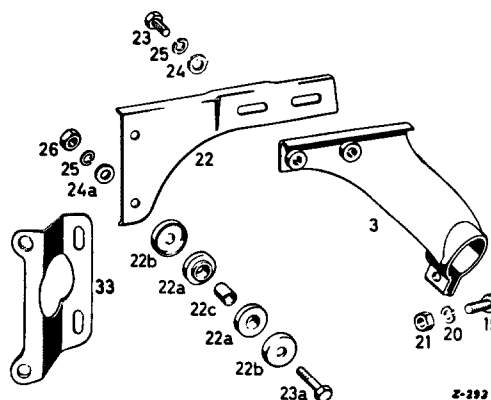

Fig. 01—1/13
- e) Connect the reversing light harness to the connector (5) for the reversing light (see Fig. 01—1/3).
36. Attach the support (22) of the exhaust suspension to the mounting plate (33) with the rubber washers (22a), the cup washers (22b), the sleeves (22c) and the two hexagon screws (23a) with the washers (24a), spring washers (25), and hexagon nuts (26) (Fig. 01—1/3).